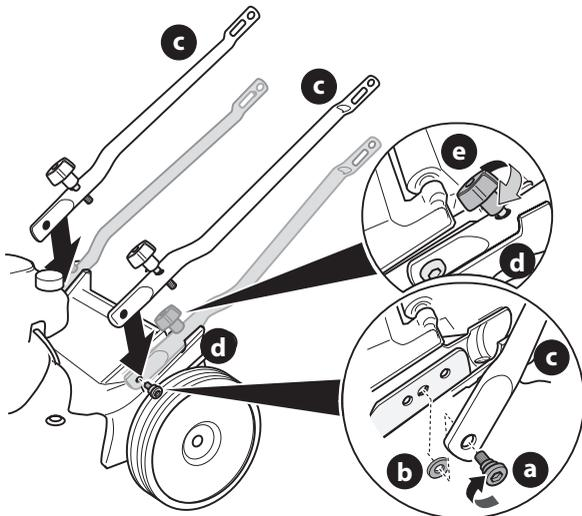

Figure 2
- With the flattened end of the lower handle tube facing in towards the mower deck Using the mounting bolt (a) and washer (b), secure the lower handle tube (c) to the mower deck (Figure 2).
- Insert lower handle into the handle bracket (d) (Figure 2).